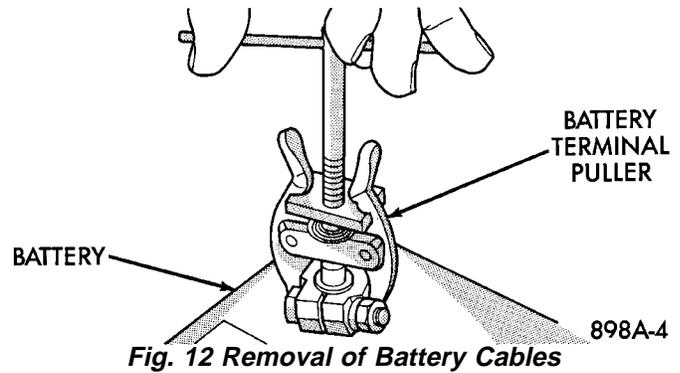

Fig. 12 Removal of Battery Cables
(1) Make sure ignition switch is in OFF position and all accessories are OFF.
(2) Remove battery negative cable first then the positive cable (Fig. 12).